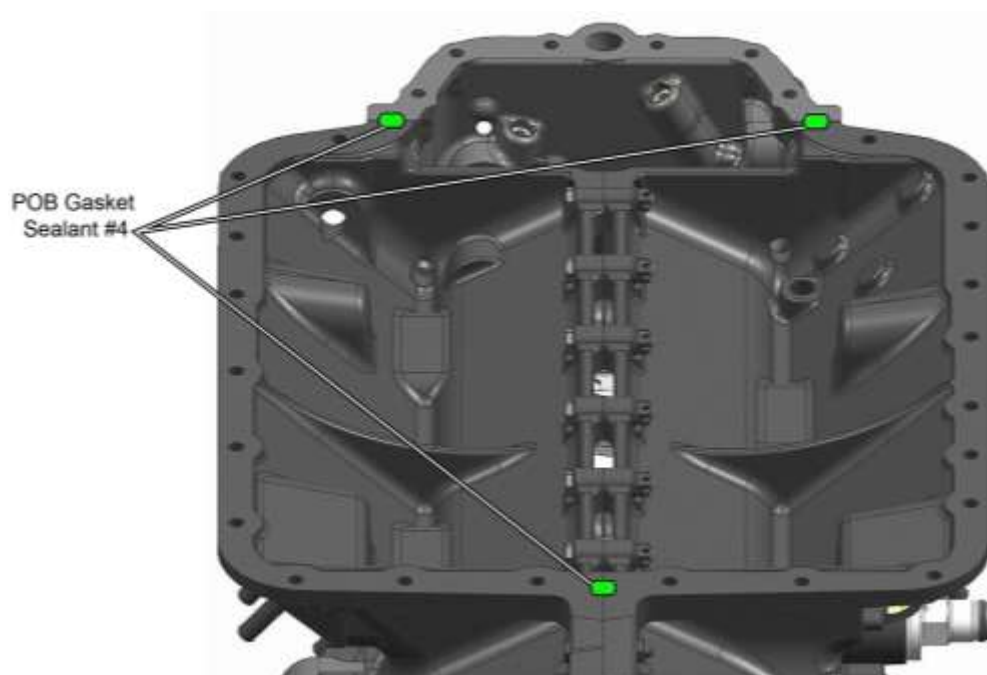

Figure 10
- E. Apply a dab of POB Gasket Sealant #4 (or equivalent) to three places in the split line between the accessory housing and crankcase where they mate with the oil sump (Figure 10).